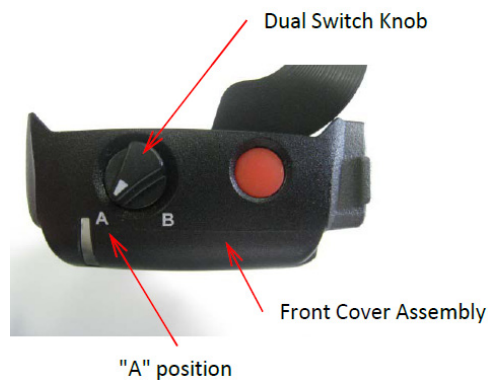

Figure 10-3: Dual Switch Knob in Position A
2. Set the Dual Switch Knob to position "A" (see Figure 10-3).